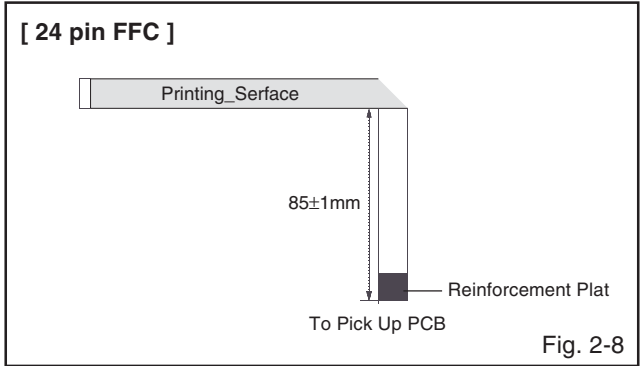

Fig. 2-8
1. When installing the FFC, fold it correctly and install it as shown from Fig. 2-8.